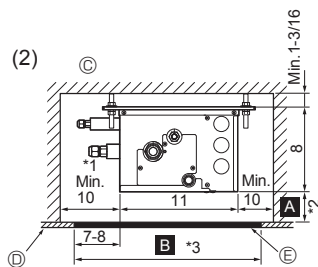
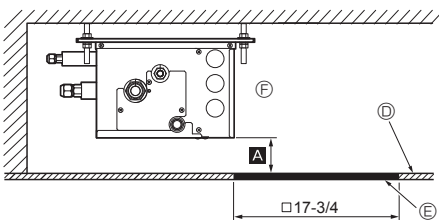

Fig. 4-5
Fig. 4-6
(2) Side View (Fig. 4-5, Fig. 4-6)
In the case of "□ 17-3/4 inch (450 mm)", prepare a maintenance hole at a PCB side (as it is shown in Fig. 4-6), and "Min. 11-13/16 inch (300 mm)" is needed as distance Ⓐ.